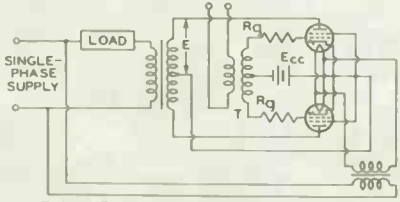

FIG. 4 FULL-WAVE SINGLE-PHASE
■ The use of a large filter input phase is assumed, except for the circuit in Fig. 4.